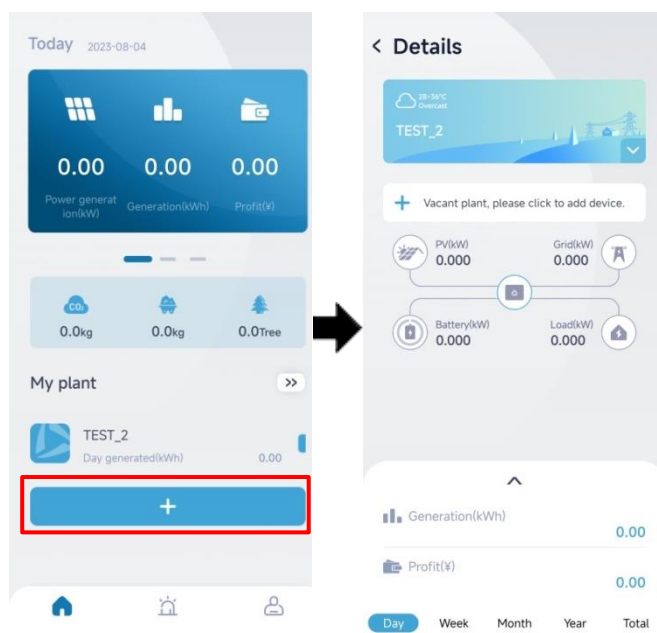

Figure4-5 Plant details interface
Step 6 Back to main page and tap the built power plant, as shown in Figure4-5.